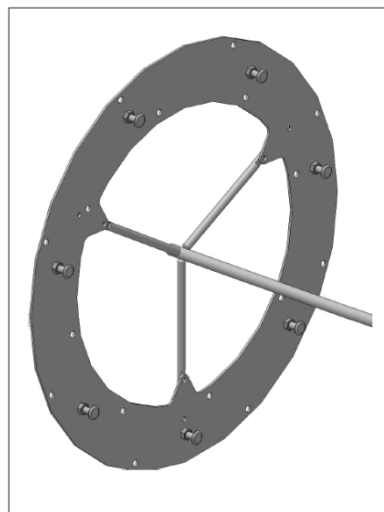

Figure 13
4. Put the points of the meat forks through the appropriate holes in the rotor disks (see Figure 13).
- With the TDR 5 you must stick the ends of the meat baskets through the appropriate holes of the rotor disks (see Figure 13).